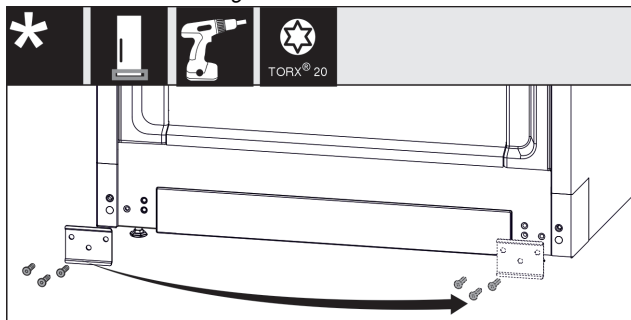

Fig. 17
- Screw off the faceplate Fig. 17 (1), move it to the other side and screw it back on.
- Attach the swap bearing block onto the other side and screw it on using a screwdriver. Start with the screw (2) at the bottom center.
- Tighten screw (3) and screw (4).
- Insert the bearing pin (5) completely. In the process, make sure that the latching cam shows towards the rear.